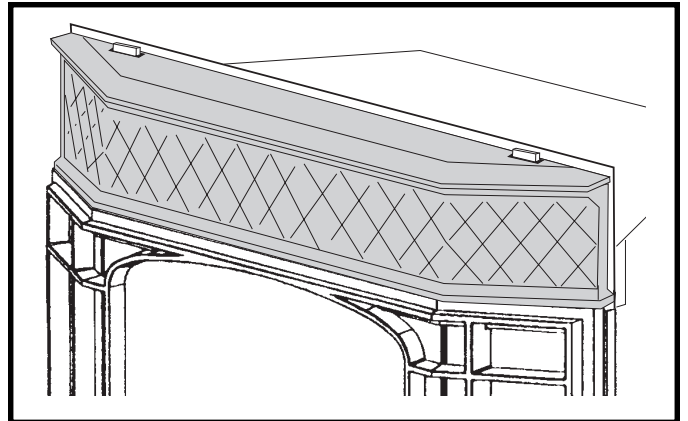

Fig. 38. Engage the slots in the Upper Grille Top Louvre with the upper tabs of the Hanging Brackets.
- 5) Install the upper grill by engaging the obround holes with the upper tabs of the hanging brackets, as per Fig. 38.
- 6) Install top louvre by engaging the obround holes with the upper tabs of the hanging brackets, as per Fig. 38.